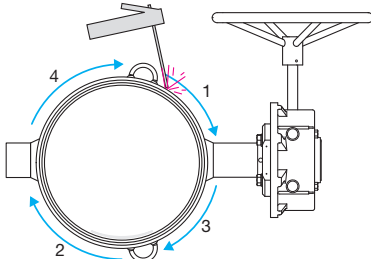
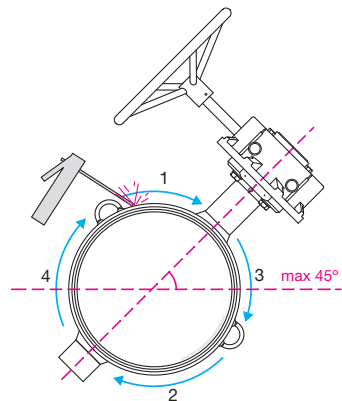
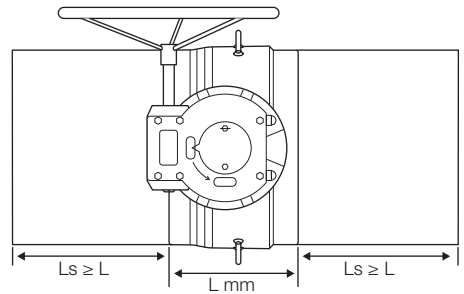

Figure 18. Welding the seams.
Figure 19. Welding the seams.
Figure 21. The recommended method.
- The recommended installation position for the valve is at an angle (see Figure 19.) or with the shafts in the horizontal position (see Figure 18.). Avoid installation with the shafts fully upright.
The greatest angle between stem axis and horizontal axis is 45 degrees (see Figure 19.).
- Then the seams between the bridges are welded as shown in Figures 18. and 19. Welding order: 1-2-3-4.
- The recommended method of welding the valve to the pipeline is welding with connection pipes (see Figure 21.). Tack welding and the welding order for the seams are the same as in Figures 18. and 19. Welding order: 1-2-3-4.